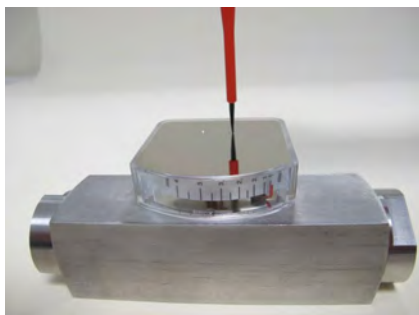

Fig. 37
1. ➤ Loosen fixing screws on the display cover plate (Fig. 37)